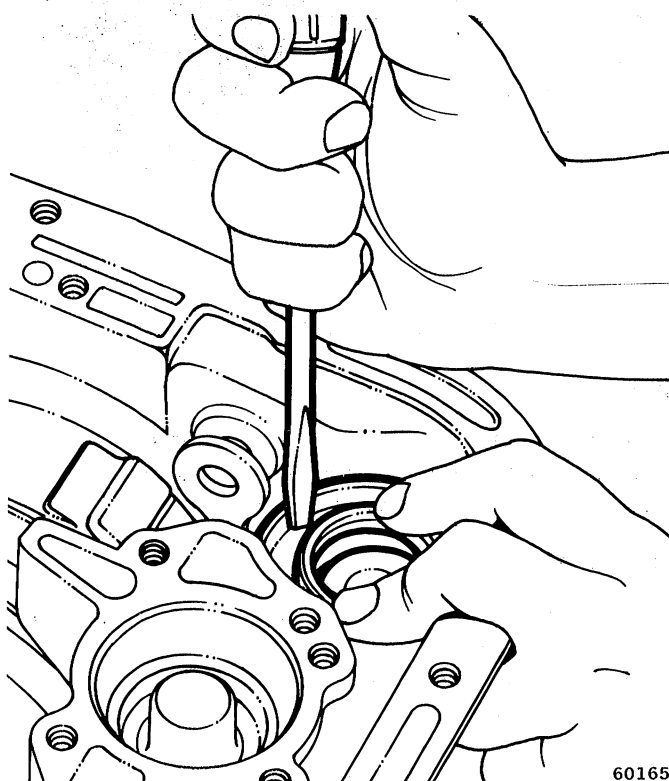

Fig. 2C-40 Rear Servo Spring and Snap Ring Removal
- (1) Compress piston spring and remove snap ring (fig. 2C-40).
- (2) Remove spring retainer, spring, piston and plug assembly. Identify spring with tag for assembly reference.